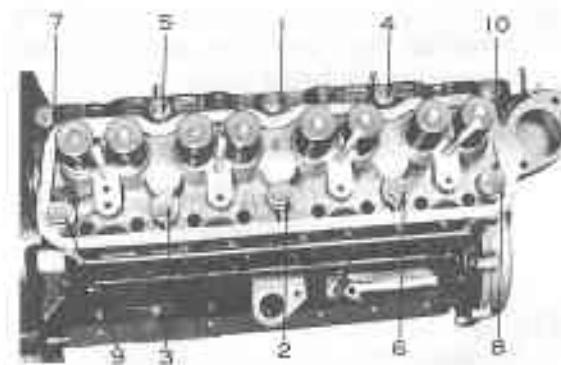

Fig. 3-69 Tightening Order
21. Turn the engine and position the top side up. Install the cylinder head with the gasket, and tighten the cylinder head bolts following the order of the numbers as shown in figure 3-69, in three progressive steps, and secure the bolts to  $10.3$  to  $11.7$  m·kg ( $74.5 \sim 84.6$  ft-lb) torque finally.